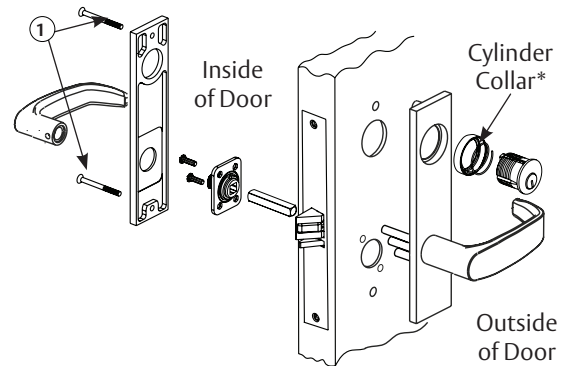

Figure 9
Through-bolt inside escutcheon to outside escutcheon with two (2) screws #8-32 x 1-7/8" (Figure 9, item #1).
*Cylinder collar(s) required for functions with two (2) cylinders or cylinders longer than #41 (1-1/8"). (Figure 9)